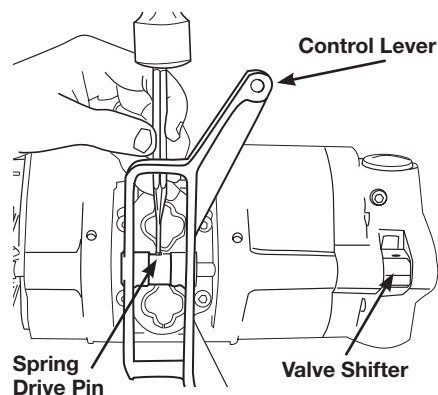
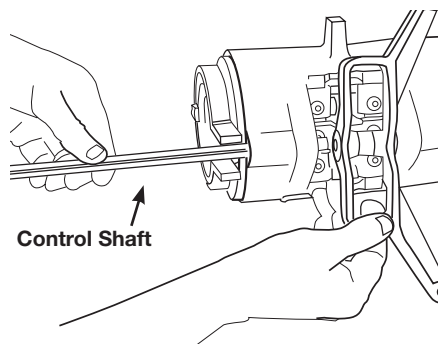

Figure 12- Driving Spring Pin from Control Lever and Shaft
Figure 13- Removing Control Shaft
3. To remove control lever and shaft, drive spring pins from control lever (Figure 12) and valve shifter at end of shaft using a drift punch. Lightly tap valve shifter end of shaft and withdraw shaft by pulling on brake cam end (Figure 13). As shaft is withdrawn, valve shifter and control lever will fall free.